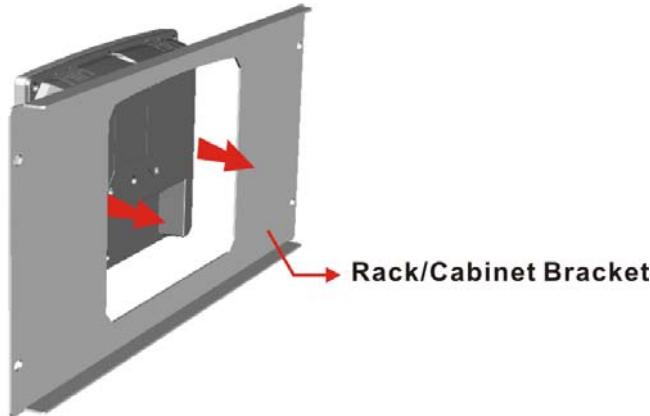

Figure 3-20: The Rack/Cabinet Bracket
Step 2: Slide the rear of the PPC-F08B/F10B-BT flat panel PC through the rack/cabinet bracket until the aluminum frame is flush against the front of the bracket (**Figure 3-20**).